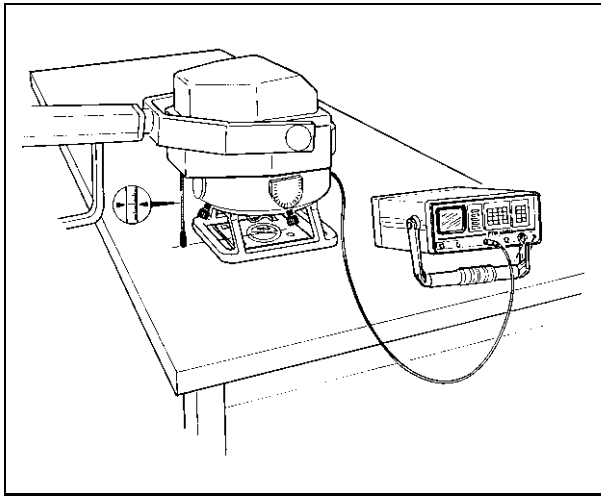

Fig. 21:
- Place the measuring detector on a tabletop or other suitable surface. Using the collimator lamp, check whether the detector is located in the radiation field (Fig. 21 / p. 43).